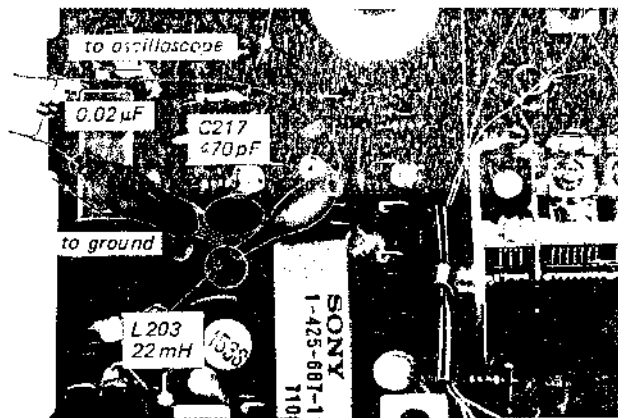

Fig. 3-3. Fm discriminator output connection
1. Connect the input cable of the oscilloscope with alligator clips to C217 and ground on the fm (a-m) front end/i-f amp/MPX board, and solder a 0.02 μF capacitor across these clips, as shown in Fig. 3-3.
1. Connect the equipment as shown in Fig. 3-3.